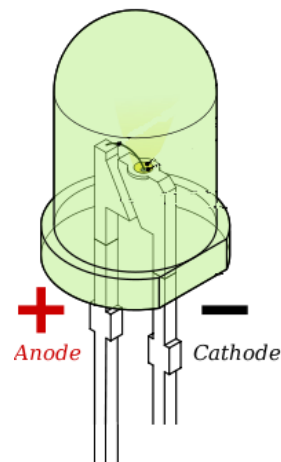

Figure 9 - Determining Cathode and Anode in LED
2. The cathode has a flat surface as shown in Figure 9